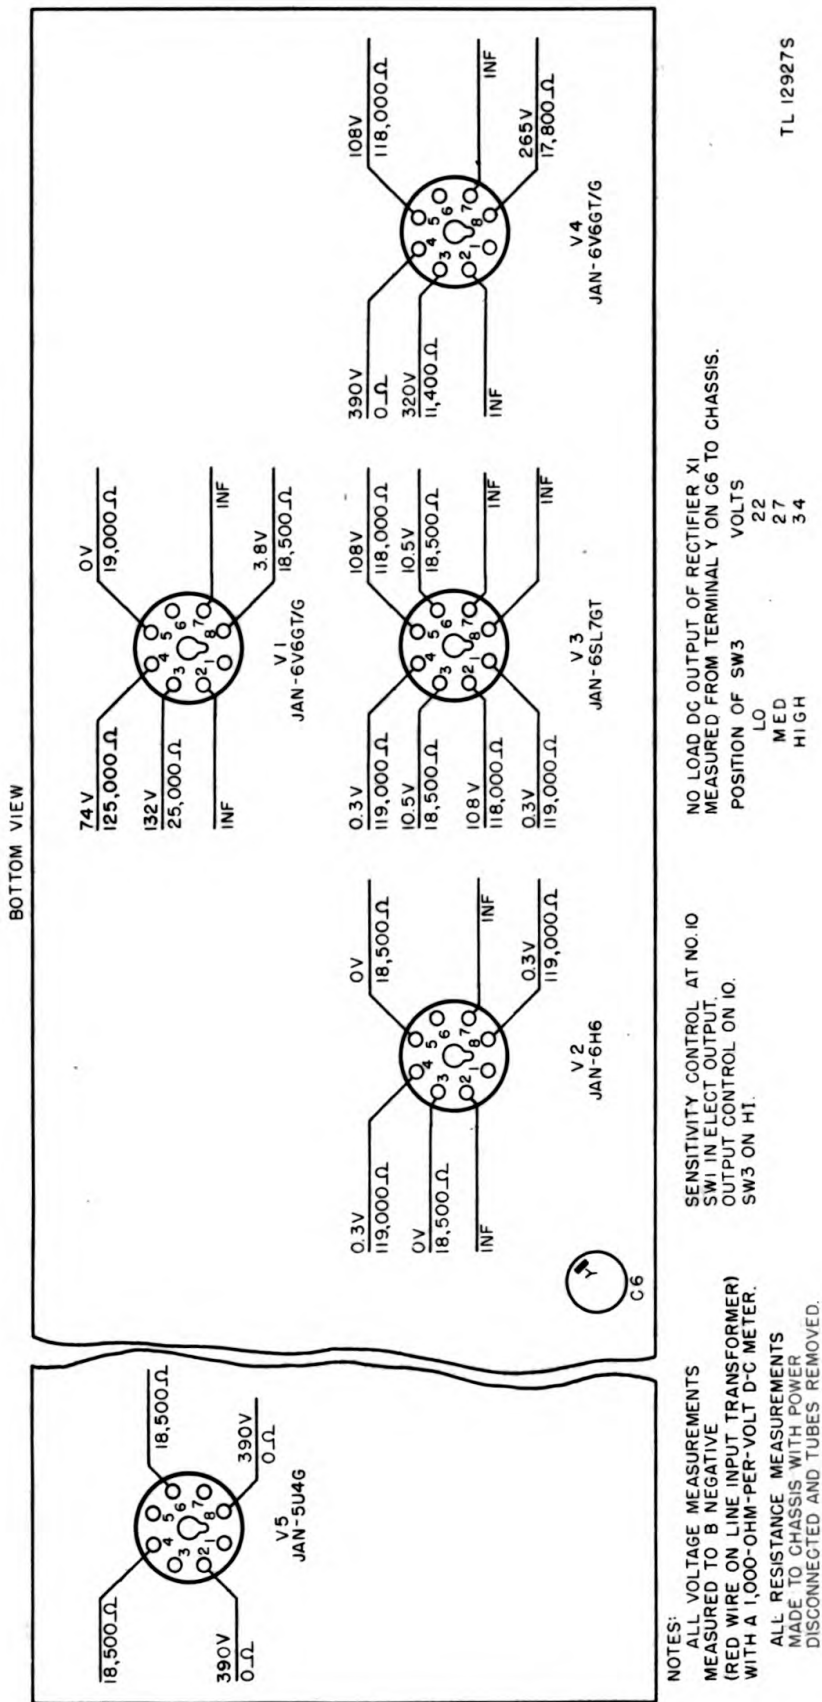

Figure 14. Keyer KY-7/FRT, voltage and resistance chart.
(3) Voltage and resistance data for all socket connections (fig. 14).
(1) The voltages listed on the voltage chart (fig. 14) are measured between the indicated points and B negative (the red wire on line input transformer T1).
(2) Always begin by setting the voltmeter on the *highest* range so that the voltmeter will not be overloaded. Then, if it is necessary to obtain increased accuracy, set the voltmeter to a lower range.
(3) When checking cathode voltage, remember that a high-voltage reading will be obtained if the cathode resistor is actually open, unless the internal resistance of the meter is approximately equal to the resistance of the cathode resistor. The resistance of most Signal Corps voltmeters is many times the value of the cathode resistance. If the resistance of the voltmeter acts as a cathode resistor, a normal reading will be obtained, although the cathode resistor is open. A sure method is to make a resistance check with a cold circuit to determine whether the cathode resistance is normal.